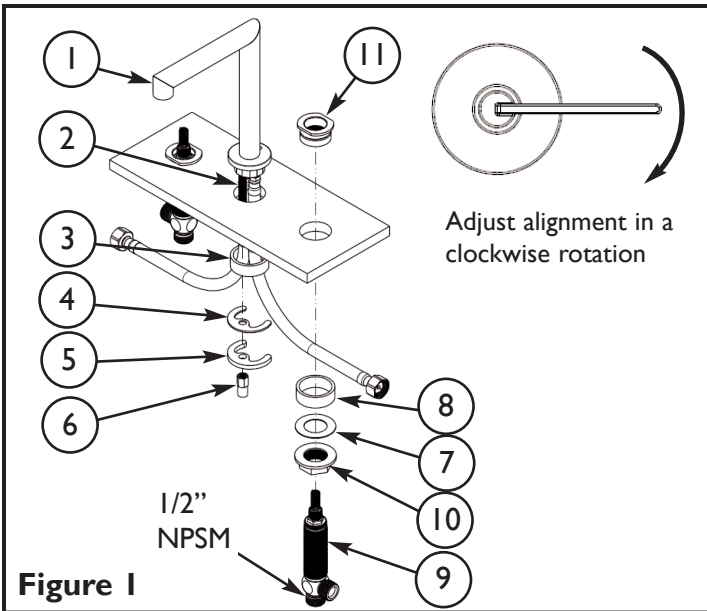
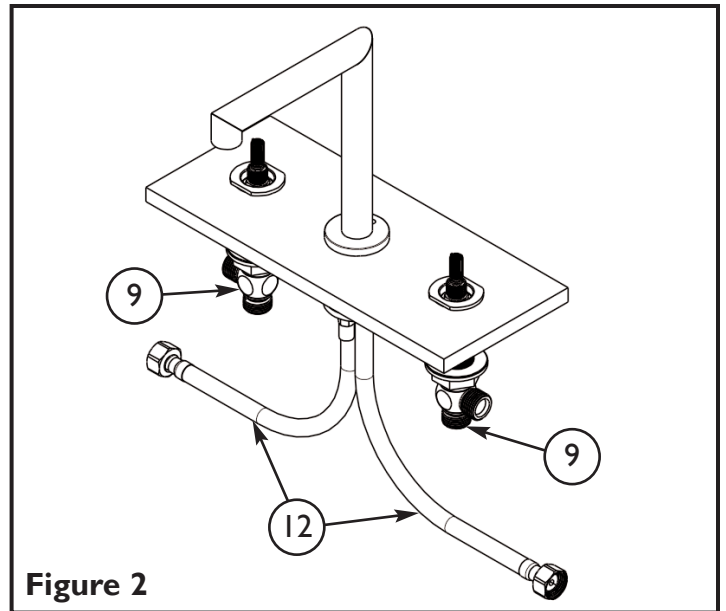

Figure 1
Figure 2
1. Place the SPOUT (1) hoses, one at a time, and threaded ROD (2) through center hole of mounting surface. Secure SPOUT (1) into place with SPACER (3) (optional), WASHER (4), BRACKET (5) and NUT (6). See **Figure 1**.
2. Place flange NUT (10), WASHER (7) and SPACER (8) on valve BODY (9). Insert valve BODY (9) through the hole in the mounting surface and thread into INVERTED NUT (11) until it bottoms out. Before tightening NUT (5), check alignment of handle. Any adjustments for rotational alignment must be made to the valve BODY (9), not to the cartridge. See **Figure 1 & Figure 2**.
3. Connect the loose end of flexible HOSE (12) to side outlet of valve BODY (9). (Hand-tighten and secure each connection with a wrench  $\frac{1}{4}$  turn.) Repeat on other side. See **Figure 2**.